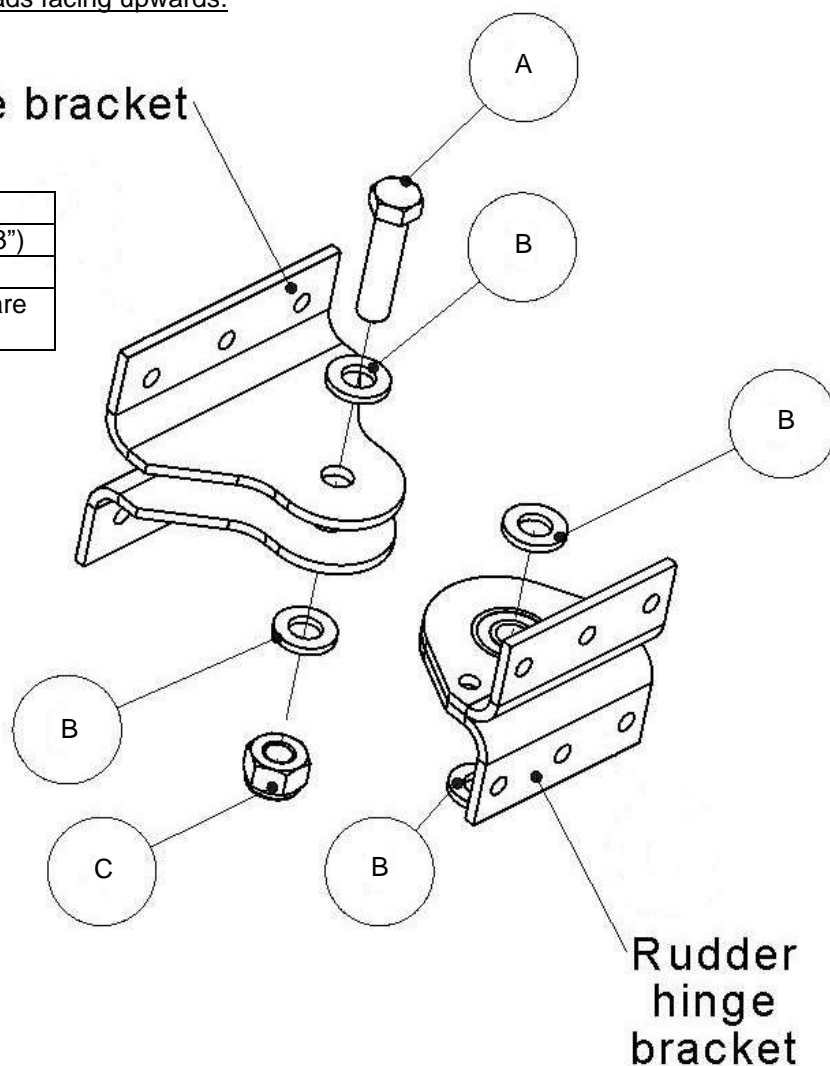

Figure 35: Rudder to vertical stabilizer hinge connection.
- Tighten the lock-nuts on the bolts through the rudder hinges sufficiently, observe the correct placement of washers (refer to Figure 35) and note that the bolts are installed with their heads facing upwards.